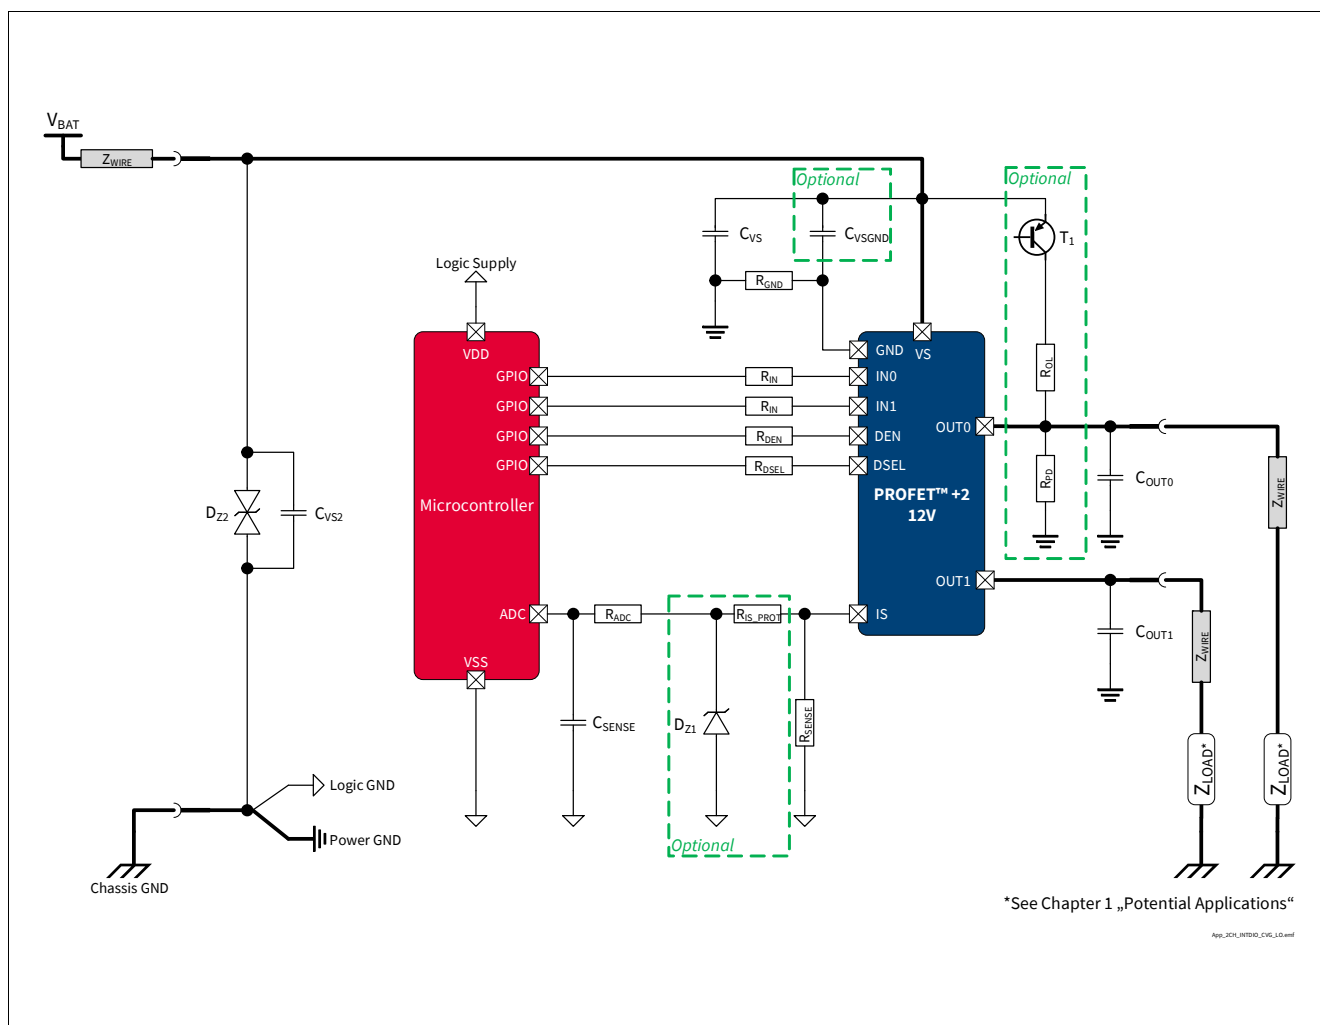

Figure 43 BTS7080-2EPA Application Diagram
1.05 , 2019-10-15	P_8.7.7.1, P_8.7.7.7, P_8.7.7.8 updated (added in Note or Test Condition: link to Figure 25) P_7.5.7.4, P_7.5.7.5 updated (added in Note or Test Condition: DEN = “low”; link to Figure 19) P_7.5.7.12 updated (added in Note or Test Condition: see Figure 21; deleted unnecessary space in Symbol: $dV_{OUT} / dt \rightarrow dV_{OUT} / dt$) P_8.7.7.6 updated (added in Note or Test Condition: see Figure 26) P_9.7.7.1 updated (added in Note or Test Condition: see Figure 34) P_9.7.7.5 updated (Min./Typ./Max.: -45%/1800/+45% → -28.0%/1750/+28.0%) P_9.7.7.6 updated (Min./Typ./Max.: -40%/1800/+40% → -25.5%/1750/+25.5%) P_9.7.7.8 updated (Min./Typ./Max.: -35%/1800/+35% → -23.5%/1750/+23.5%) P_9.7.7.12 updated (Min./Typ./Max.: -26%/1800/+26% → -19.0%/1750/+19.0%) P_9.7.7.15 updated (Min./Typ./Max.: -11%/1800/+11% → -9.8%/1805/+9.8%) P_9.7.7.17 updated (Min./Typ./Max.: -6%/1800/+6% → -6.0%/1805/+6.0%) P_9.7.7.19 updated (Min./Typ./Max.: -5%/1800/+5% → -4.5%/1805/+4.5%) P_7.5.7.11 updated (added in Note or Test Condition: see Figure 19) Figure 1, Figure 43 updated Chapter 1 updated (or LED equivalent → or equivalent electronic loads (e.g. LED modules)) P_4.3.0.7 added Table 24 updated Chapter 5.1 updated (added: see Chapter 10 for the complete application setup overview)